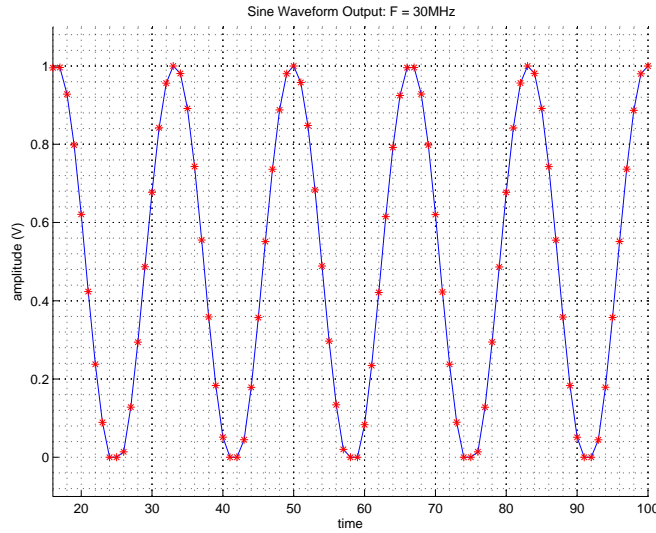

Figure 4.12: Measured: ADS5463 Digitized 30MHz Sine Wave; Time Domain
i. Sine Waveform @ $F = 30\text{MHz}$; Time Domain (See Figure 4.12).
5. The spurs at the lower rates are due to signal clipping at the ADC input. I suspect that the attenuation in the Anti-Alias filter is less severe at those frequencies, so the signal at the ADC is a bit bigger. If you look at the time domain waveforms in Figures 4.12, 4.15, 4.18, and 4.21 you'll notice that the higher frequency sine waves have a smaller amplitude than the lower frequency sine waves. This was not immediately obvious to me at first glance, and after talking with a friend we determined the cause was due to signal clipping. A hard-clipped signal results in the introduction of many high frequency harmonics during the sampling process. This Wikipedia entry has a good description in the last sentence of the first paragraph of the effect I was seeing: